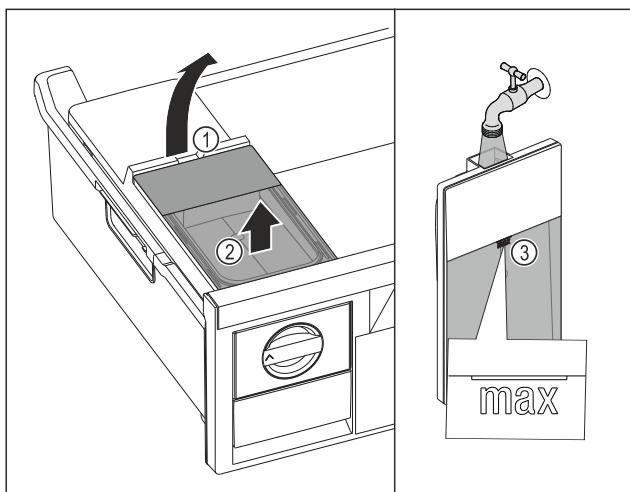

Fig. 113
- Lift the water tank at the recess Fig. 113 (1).
- Remove the water tank by lifting it upwards. Fig. 113 (2).
- Fill the water tank with drinking water up to the mark Fig. 113 (3).